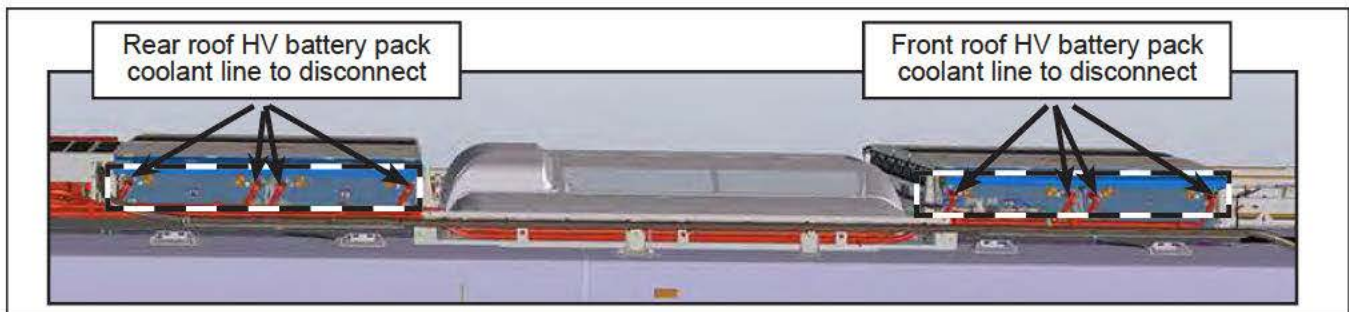

Figure 3 - Roof HV Battery Pack Coolant Line to Disconnect
- 1.8. Disconnect the inlet and outlet coolant lines from the upper front and upper rear HV battery packs. See Figure 3.
- 1.11. Connect the inlet and outlet coolant lines to the upper front and upper rear HV battery packs. See Figure 3.